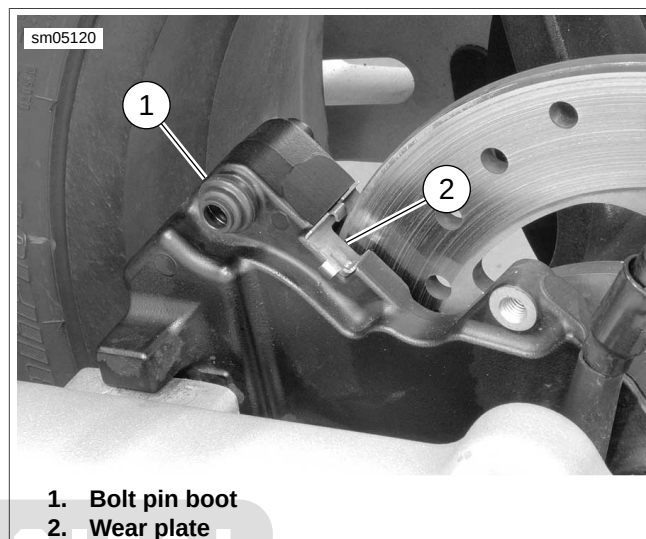
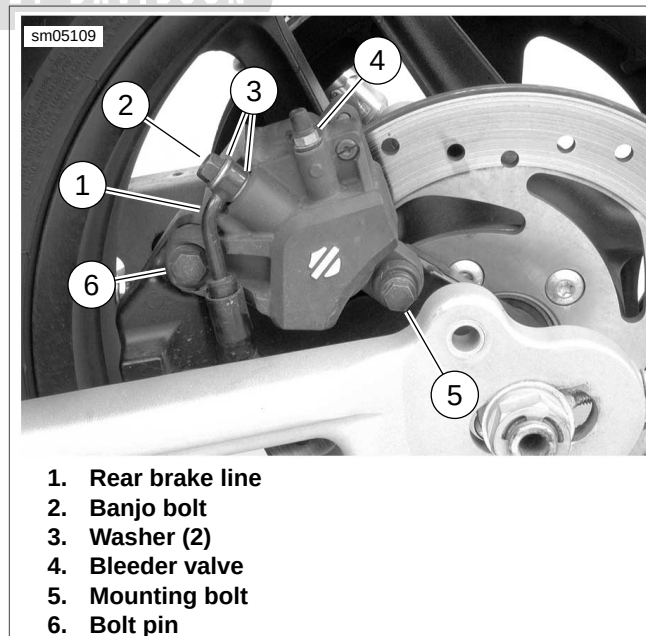

Figure 2-142. Caliper Mount
Figure 2-143. Rear Caliper Assembly
1. See Figure 2-142. If removed, install bolt pin boot (1).
3. If removed, install wear plate (2) on mounting bracket.
4. See Figure 2-143. Apply a drop of LOCTITE 272 Thread Lock to threads of bolt pin (6).
6. See Figure 2-143. Install mounting bolt (5) and tighten to 14-18 ft-lbs (19.6-24.5 Nm).